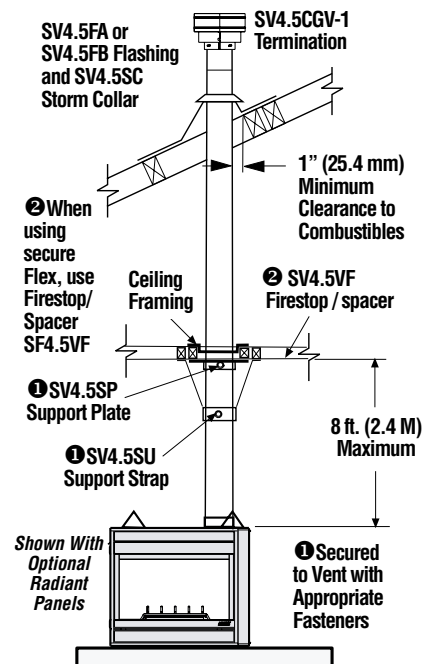

Figure 29
D. Install firestop/spacer at ceiling (Figure 29) - When using Secure Vent, use SV4.5VF firestop/spacer at ceiling joists; when using Secure Flex, use SF4.5VF firestop/spacer. If there is living space above the ceiling level, the firestop/spacer must be installed on the bottom side of the ceiling. If attic space is above the ceiling, the firestop/spacer must be installed on the top side of the joist. Route the vent sections through the framed opening and secure the firestop/spacer with 8d nails or other appropriate fasteners at each corner. **Remember to maintain 1" (25 mm) clearance to combustibles, framing members, and attic or ceiling insulation when running vertical chimney sections. Attic insulation shield (96K94) may be used to obtain the required clearances indicated here. See installation accessories tables on pages 38 and 39.**
Support the vertical portion of the venting system every 8 feet (2.4m) above the fireplace vent outlet. One method of support is by utilizing field provided support straps (conventional plumber's tape). Secure the plumber's tape to the framing members with nails or screws. Loop the tape around the vent, securing the ends of the tape to the framing. If desired, sheet metal screws #6 x 1/2" length may be used to secure the support straps to the vent pipe. Refer to **Figure 29**.